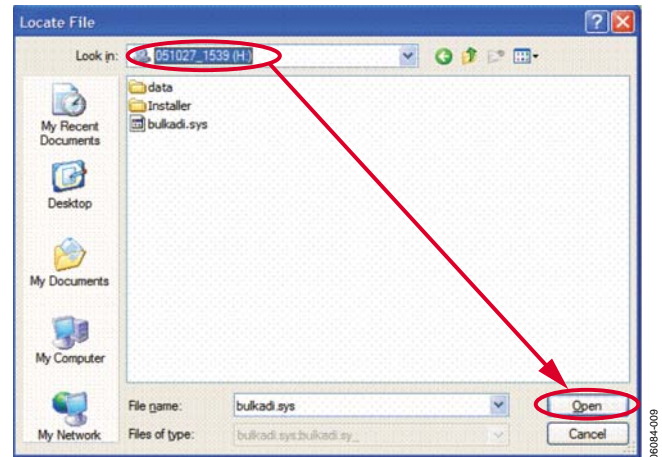

Figure 9. Find the bulkadi.sys File on the EVAL-AD7764/AD7765EBZ Software CD
6. Locate the CD drive of the computer, select the file bulkadi.sys and then click **Open**, as shown in Figure 9.